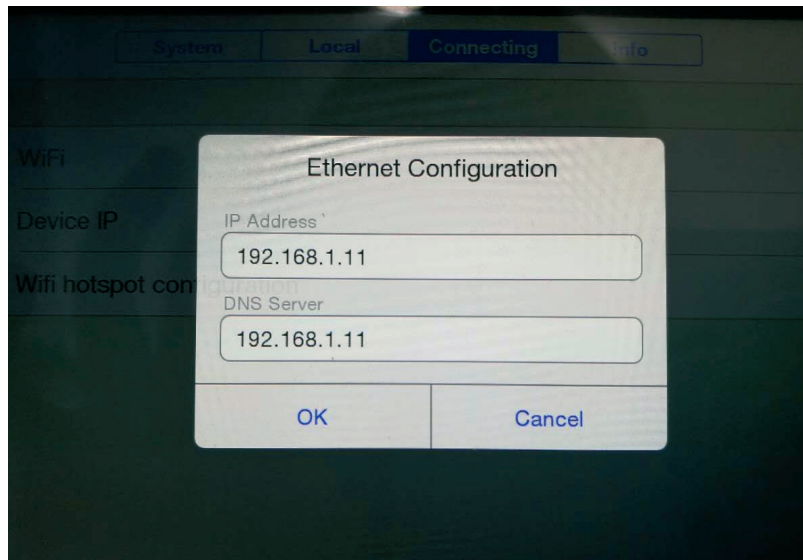

Figure 3-35
2. Enter “Setting” – “Connection” – “Device IP” setting interface of the device to set the device IP (the device IP and the computer IP shall be in the same network segment). See Figure 3-35: